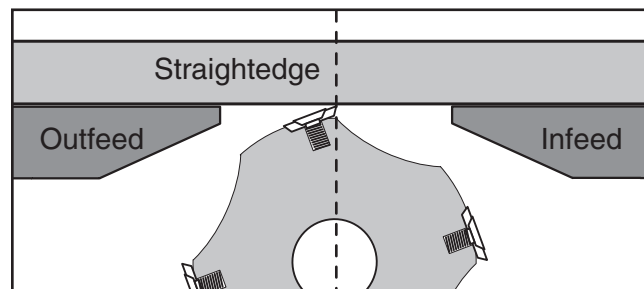

Figure 45. Infeed table adjusted even with outfeed table.
4. Adjust the infeed table until it is level with the outfeed table, as illustrated in **Figure 45**.